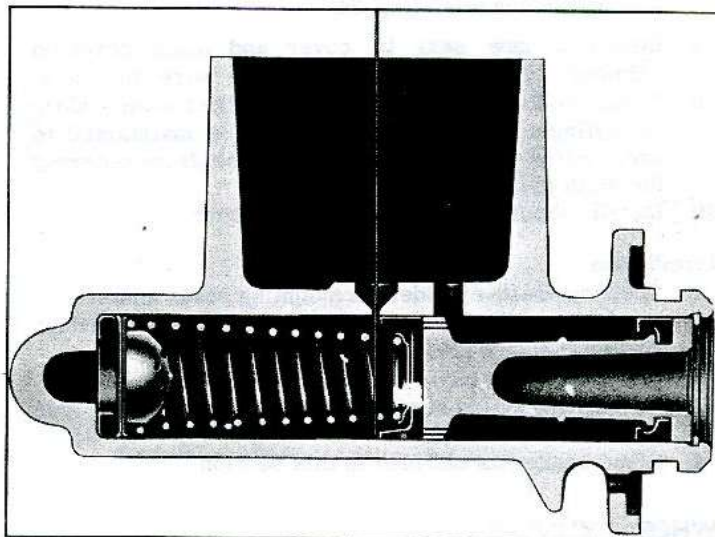

Fig. 24—Checking Compensating Port Clearance
**NOTE:** This check is made easily by using a wire and inserting it through the reservoir and into piston chamber (fig. 24).